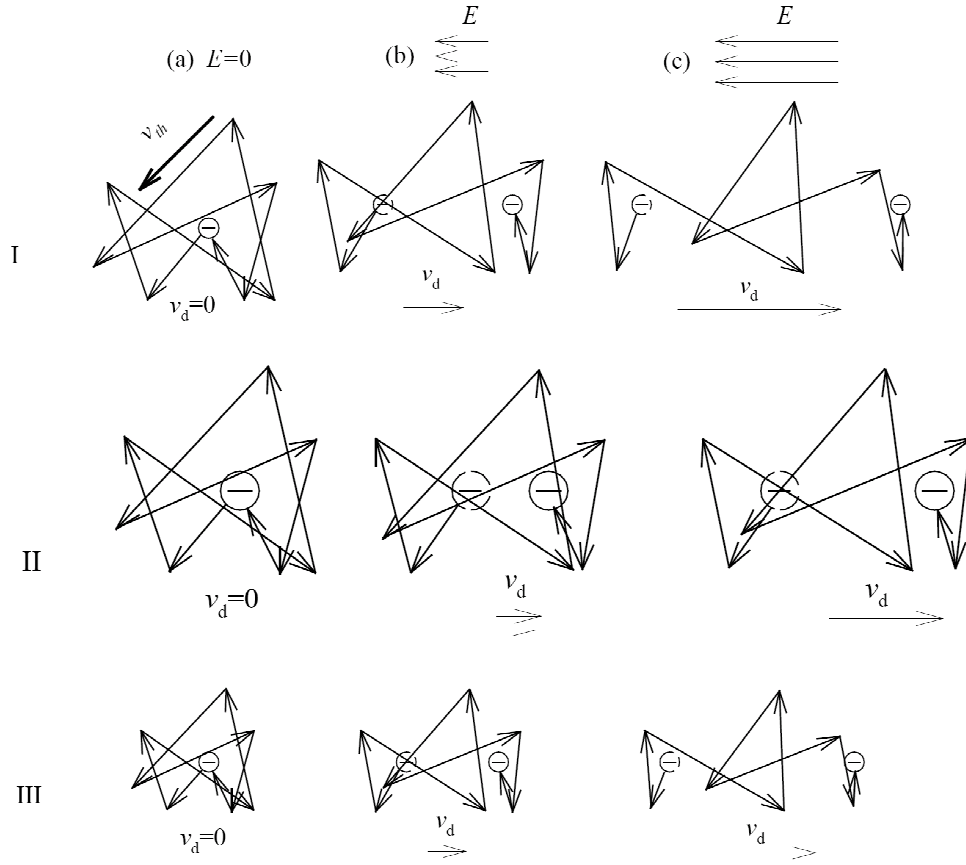

Figure 4: Drift velocity concept.
- See figures 4 and 5.
- If a "small" electric field is applied (column b in figure 4), drift velocity represents a small perturbation on random thermal velocity and the mean scattering time  $\tau_{cn}$  is not altered appreciably.